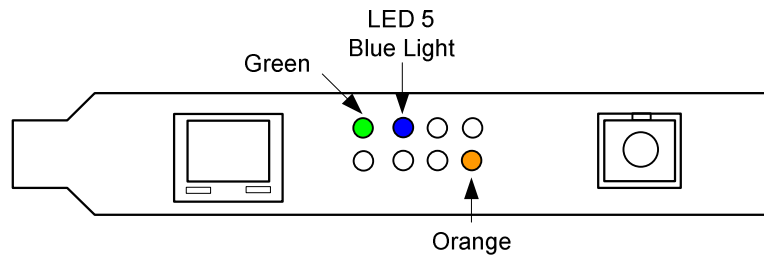

Figure 4-2. LED State for DAG 6.2S Card Without Optical Input.
**Figure** Figure 4-2 shows the correct LED state for DAG 6.2S card without optical input.